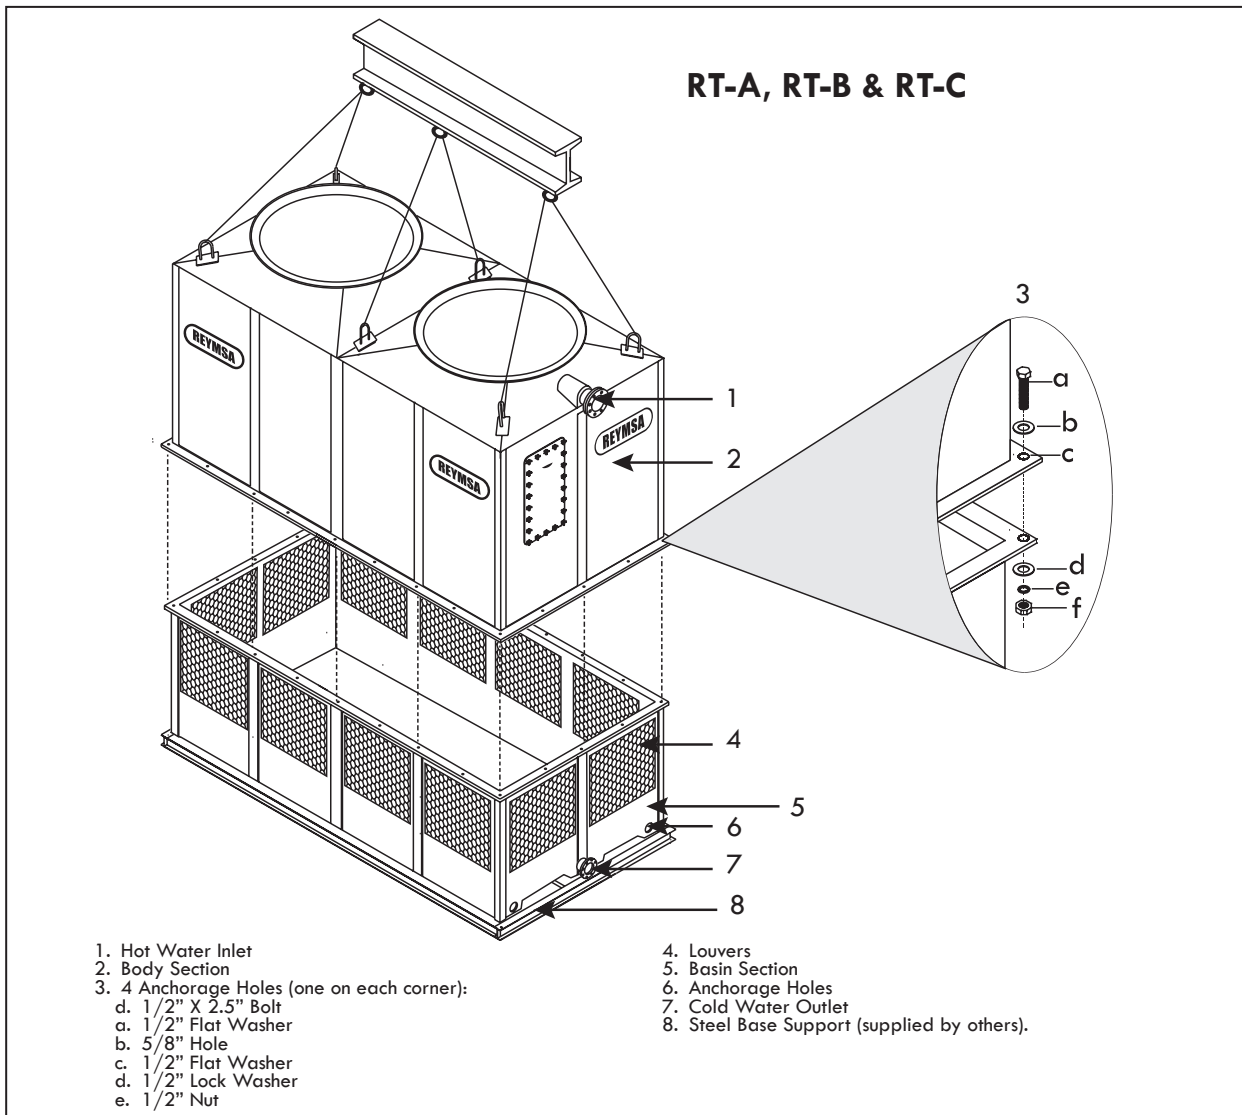

Figure A-17: Body and basin sections installation for a Double Fan Tower (RT-A, RT-B, RT-C)
- J.** Assemble the body section (Upper Body section for RT-D) with the basin section (Lower Body section for RT-D). The body section comes assembled with u-bolts for lifting; then using a crane assemble both parts, use a drift pin to align bolt holes as the sections are being set (See figure A-17 and A-20). Make sure that the hot water inlet, and the cold water outlet are on the same side of the Tower when assembled.